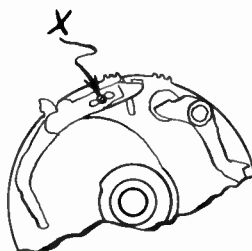

Figure F6.
4. **Does Not Trip:** Trip H (figure F6) not adjusted properly. See adjustment 3.